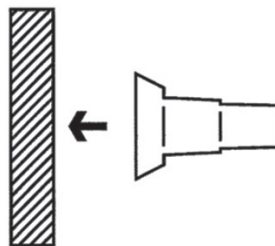

Fig. 7.2
1. Remove the integrated nailable connector from the anchor sleeve and attach it to the facing using an 80 mm nail or a screw (Fig. 7.2).